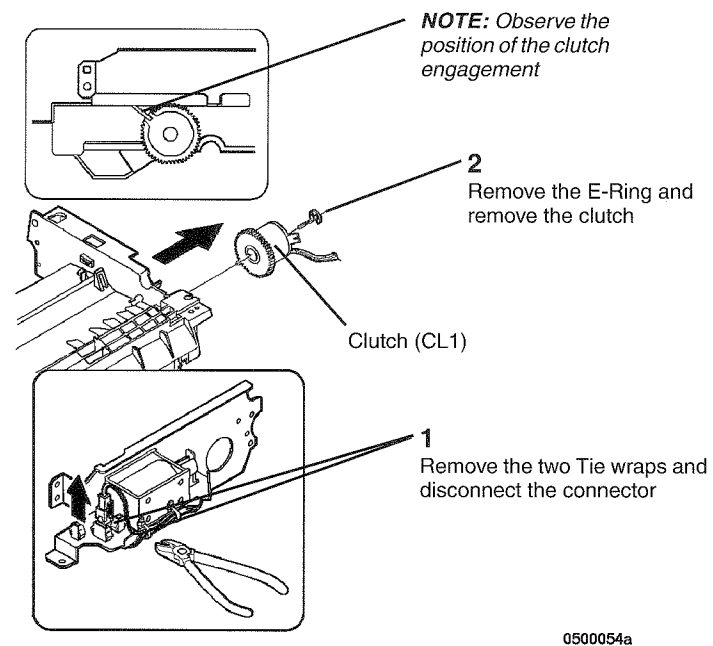

Figure 1 Removing the DSDF Clutch (CL1)
3. ( Figure 1): Remove the Transport Assembly.